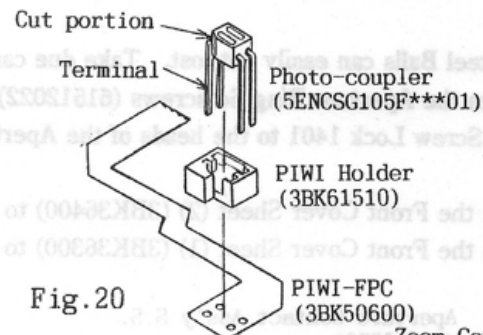

Fig.20
- 1) Install the Photo - coupler (5ENCSG105F\*\*\*01) in the PIWI Holder (3BK61510) so that the cut portion of the Photo - coupler is positioned as shown in Fig.20.